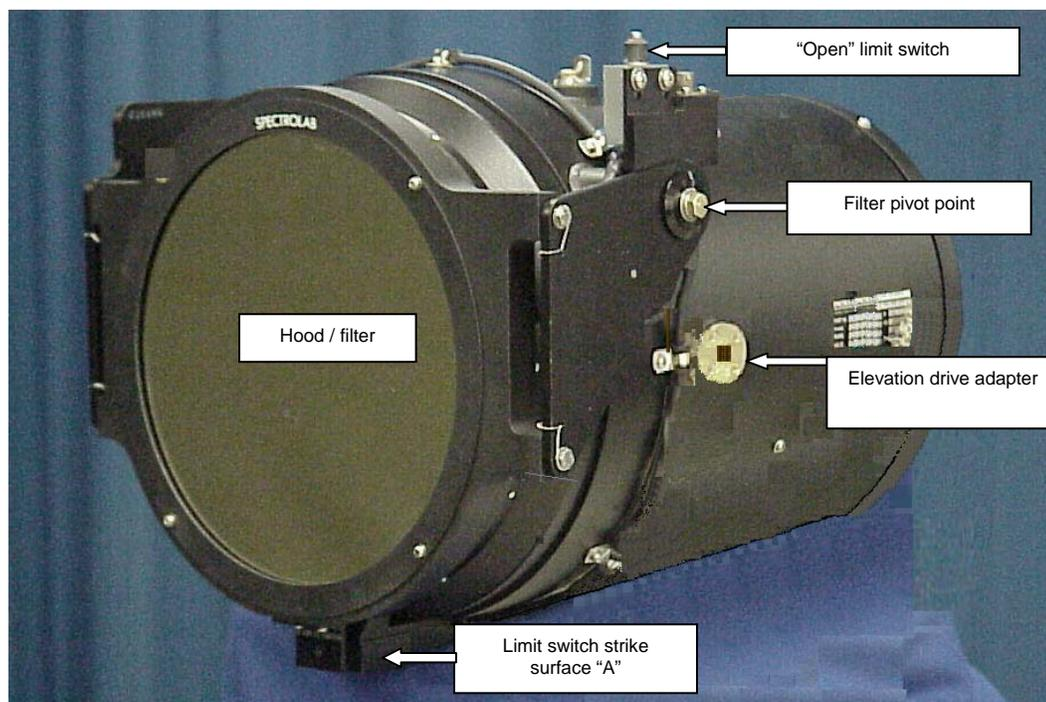

Figure 26 IFCO Equipped Searchlight with Hood in Closed Position
- The operator can switch from white light (using the standard lamp without the IFCO hood) to filtered light in approximately 20 seconds. Figure 26 shows the IFCO hood/filter in the operational (closed) position covering the front of the Searchlight.